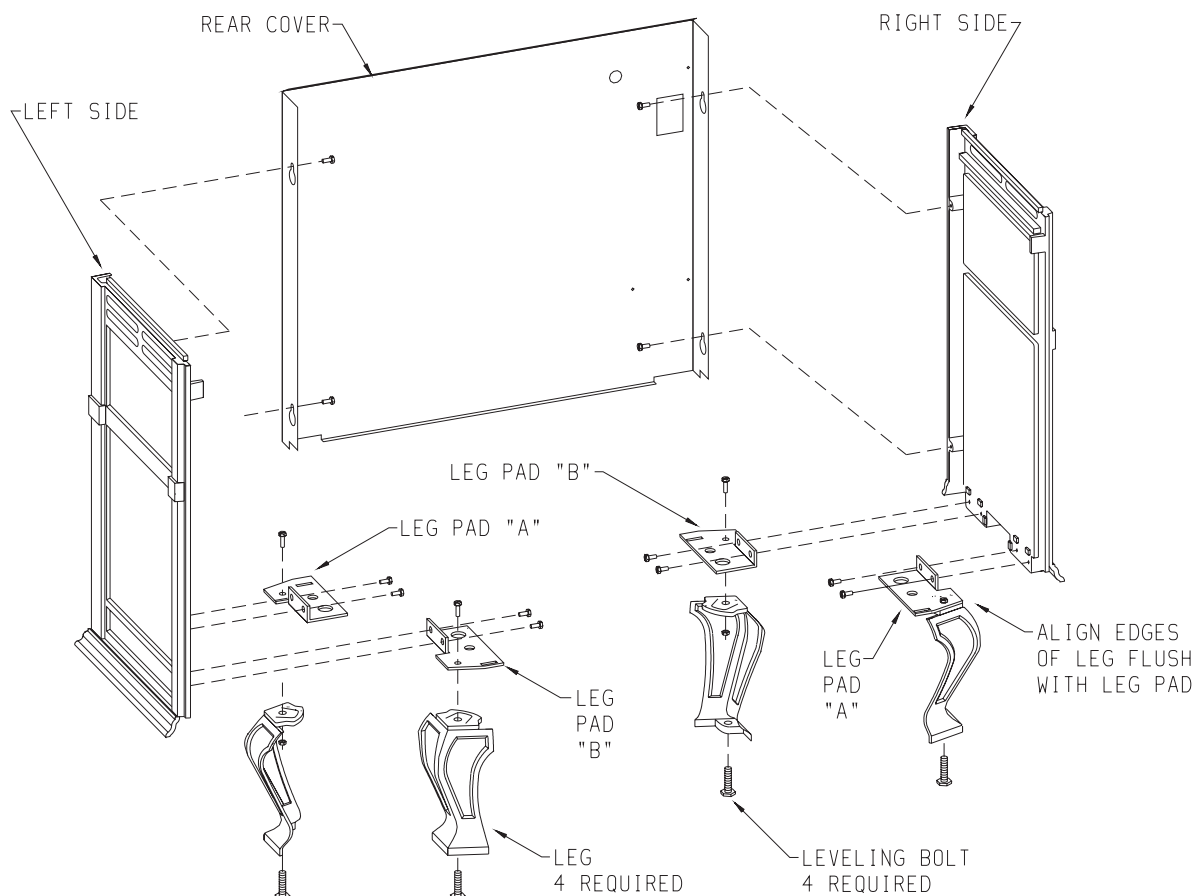

Figure 6
Assembly of Stove Casting (Figures 6, 7, 8, 9, 10, 11 and 12)
- A. Attaching legs to the sides (Figure 6).
3. Refer to Figure 6, the leg pads will have the letter "A" and "B" stamped into the metal. Place leg pad "A" and leg pad "B" at the bottom of each casting side. Leg pad "A" attaches to the front of the casting side, right and to the rear of the casting side, left. Leg pad "B" attaches to the rear of the casting side, right and to the front of the casting side, left. Position the 3/4" flange on the leg pad against the (2) locator dimples on the casting side. The 3/4" flange must be facing upward, toward the top louver openings on the casting side. Attach the two rear leg pads to the casting sides with (2) 3/8" bolts. Attach but do not completely tighten the two **front** leg pads to the casting sides with (2) 3/8" bolts. **Attention:** The front leg pads can be adjusted to provide a snug fit between the casting front and the casting sides.
4. Attach (4) leveling bolts to the bottom of the (4) legs.
5. Align the 3/8" hole at the top of the leg with the 3/8" hole in the leg pad. **Attention:** For proper positioning of the leg to the leg pad the (2) 1-1/2" top edges of the leg must be placed flush and parallel to the (2) edges on the leg pad. Attach leg to leg pad by inserting (1) 1" bolt through the leg pad and into the leg, secure bolt with 1/4" nut.
6. Insert (2) 3/8" bolts into the (2) holes on the edges of the casting sides. The bolts should only be threaded half-way into the holes in order to allow for clearance when the casting back is attached to the casting sides.